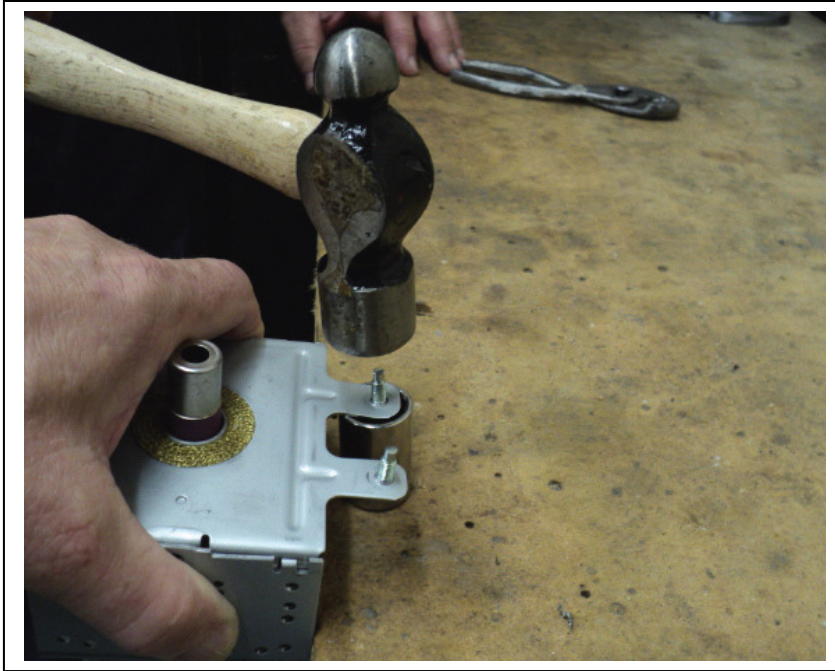
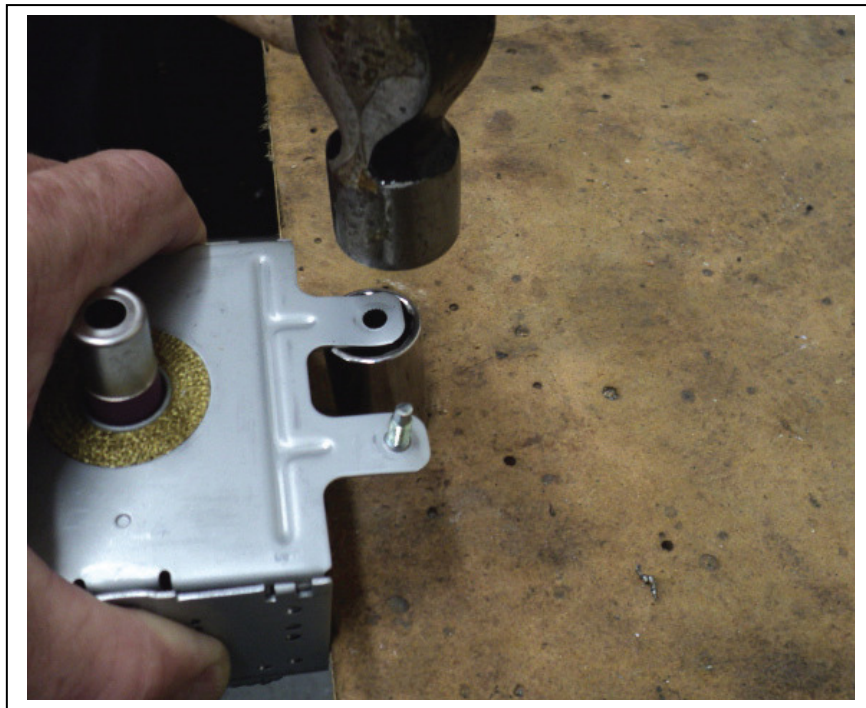

Figure 2
Figure 3
- b. Use a hammer to knock the mounting stud into the socket taking care not to bend the magnetron mounting ears (Figure 2, Figure 3).